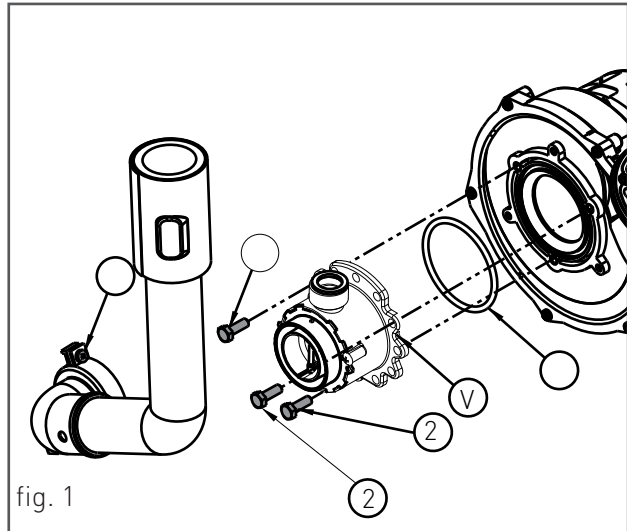

fig. 1
- › reassemble the components by proceeding in reverse order of the disassembling operations making sure that gasket 'G' is re-assembled as shown in fig.1;